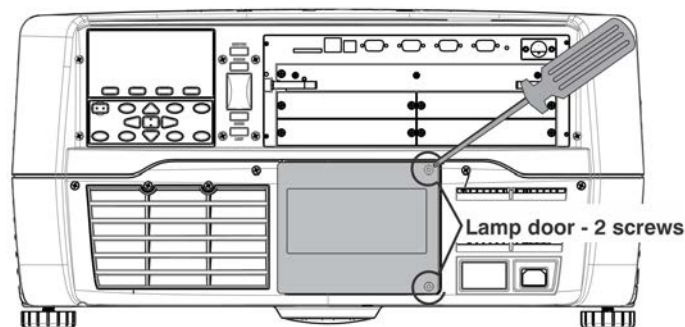

FIGURE 5-1
Using a #2 Phillips screwdriver, loosen the two (2) lock screws securing the lamp door, which is located at the rear of the projector below the Input panel. See Figure 5-1.